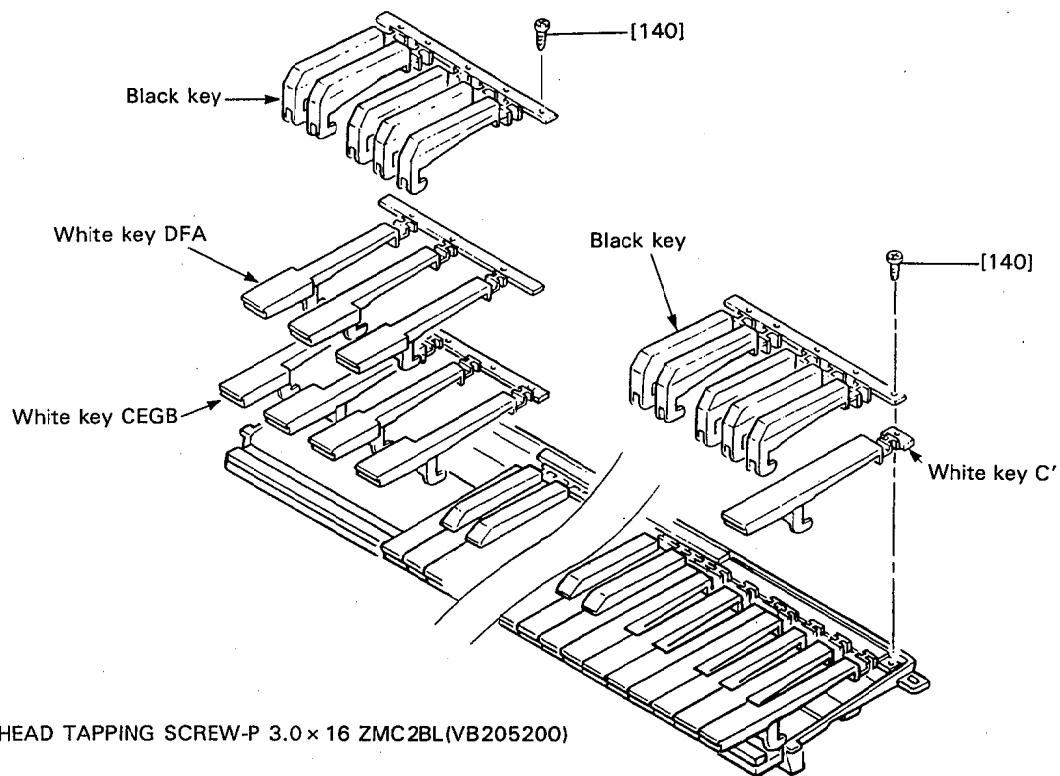

Fig. 7
- 7-2. White And Black Keys Removal (Fig. 7)
- 8-1. Fitting The White And Black Keys (Fig. 7)